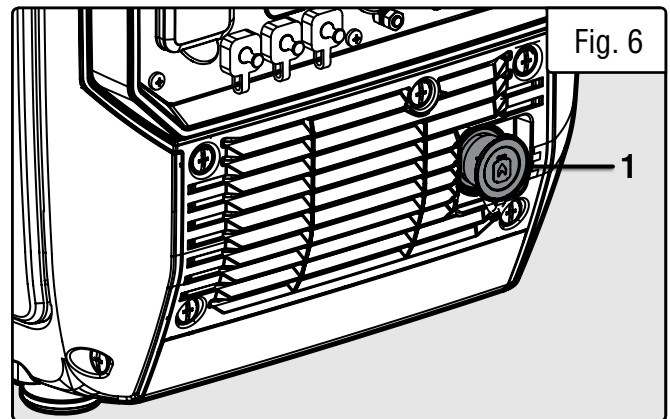

Fig. 6
3. Remove the protective cover from the LPG inlet (Fig. 6 - 1) on the generator. Push the connector on the other end of the regulator hose into the LPG inlet until it clicks into place.